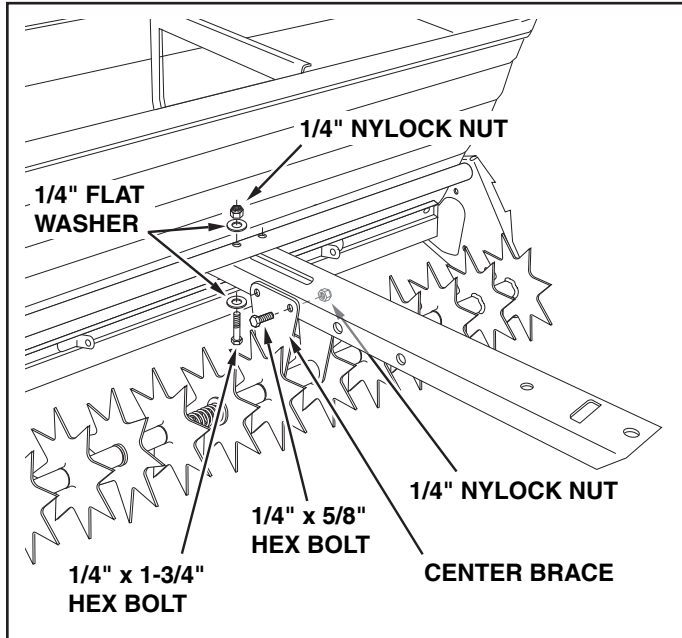

FIGURE 2
- Attach the tongue to the frame assembly tube using two 1/4" x 1-3/4" hex bolts, four 1/4" flat washers and two 1/4" hex nuts as shown in figure 2. **Do not tighten yet.**
- Attach the tongue to the two center braces using four 1/4" x 5/8" hex bolts and 1/4" hex nuts as shown in figure 2. **Do not tighten yet.**